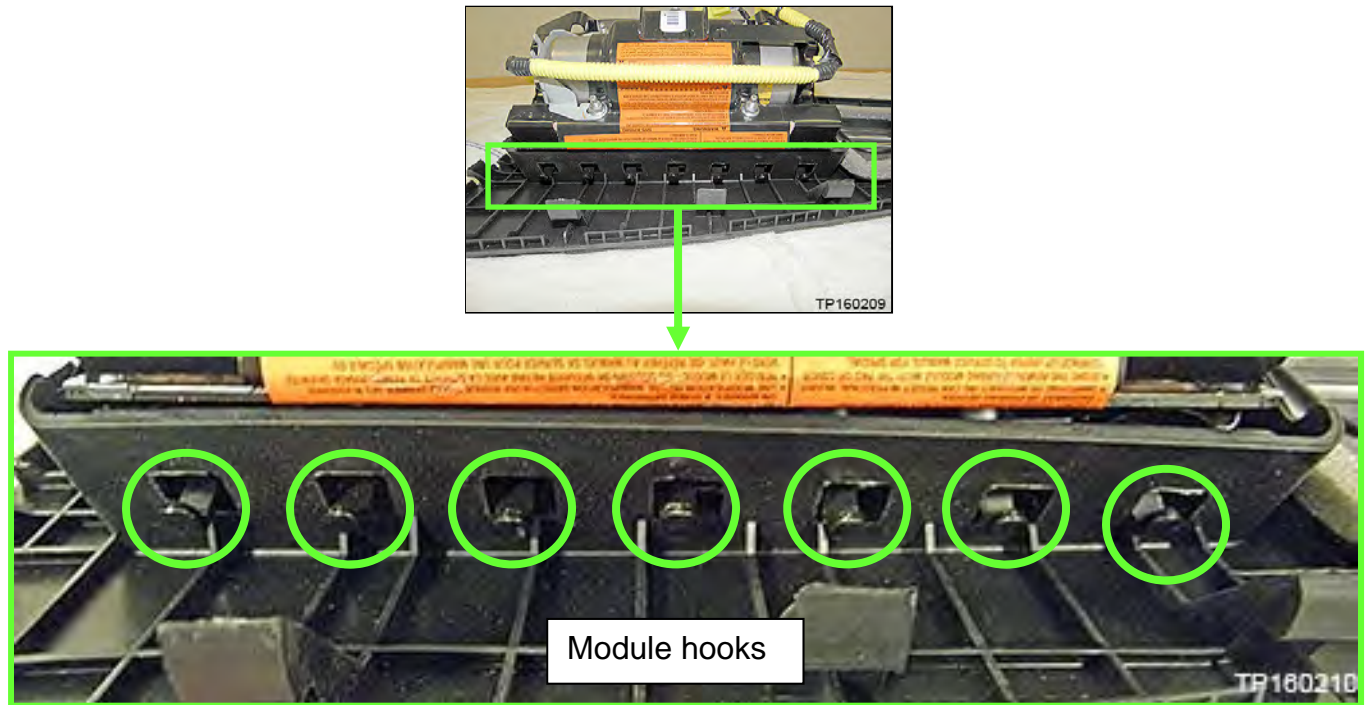

Figure 26
- Detach the module hooks (Figure 26) one at a time, starting at one end and then working towards the opposite end (seven [7] hooks).